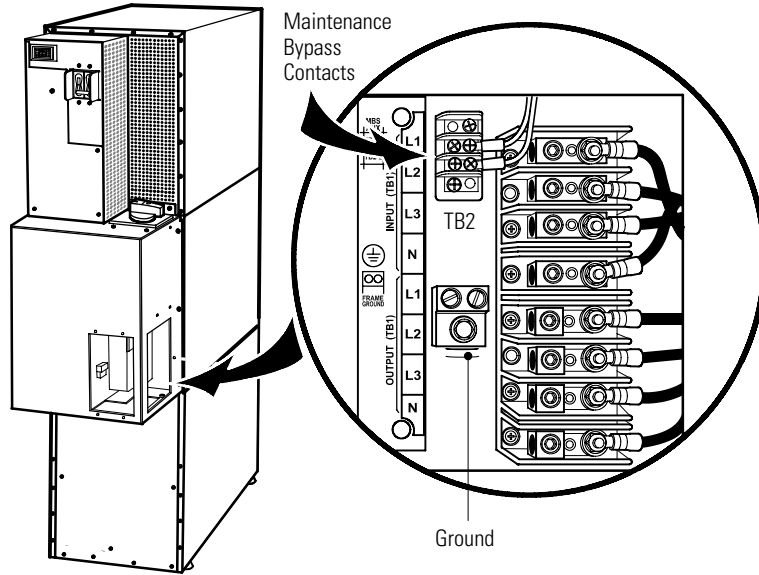

Figure 22. UPS Terminal Block (3-High Shown)
See Table 2 for specifications and Figure 22 for a detailed view of the UPS terminal block.
15. Route the maintenance bypass wires through the conduit to the UPS terminal block (see Figure 22 on page 36).